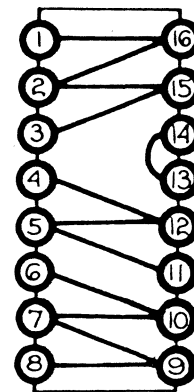

Figure 5-19
NOTE: The fraction is always dropped. 142.96 = > 142. The decimal number 142 is represented as: 128 + 8 + 4 + 2. See Fig. 5-19. Pins 8(2), 9(4), 10(8) and 13 (128) are connected to the PLUP (pull up) pins (6 & 14). All other pins are connected to the ground pins (3 & 11). The resulting header is illustrated in Fig.5-19.